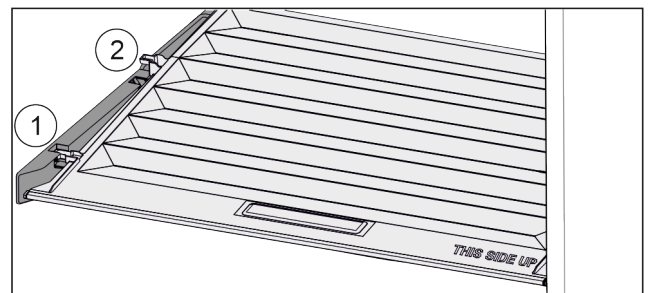

Fig. 98
- Pull the lid up at the front to the opening in the retaining parts Fig. 98 (1).
- Lift from the back and pull it up and out Fig. 98 (2).